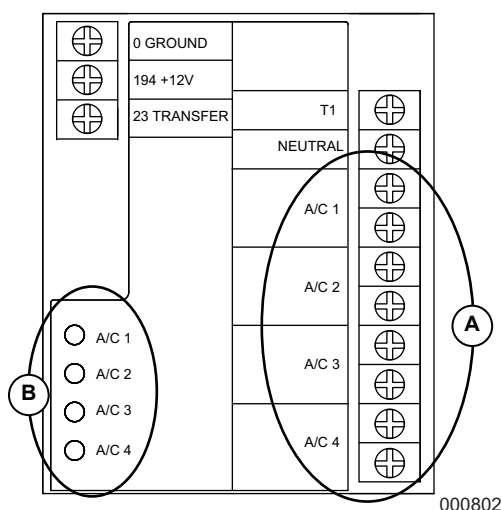

Figure 2-3. Smart A/C Module (SACM)
See Figure 2-3. Priorities A/C 1-4 (A) have connections for an air conditioner. To control an air conditioner, no additional equipment is required. Internal normally closed relays interrupt the 24 VAC thermostat control signal to disable the air conditioner load.
See Figure 2-3. Four LEDs, located on the SACM (B), illuminate when a load is connected and powered.